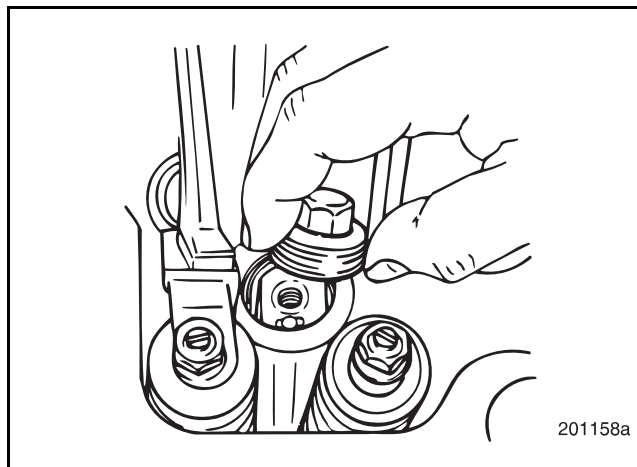

Figure 6-66 — Retaining Plug Installation
8. Lubricate the threads of the retaining plug and install in position. Torque to 45 lb-ft (61 N•m) using torque wrench J 24407 or equivalent. Refer to Figure 6-66.